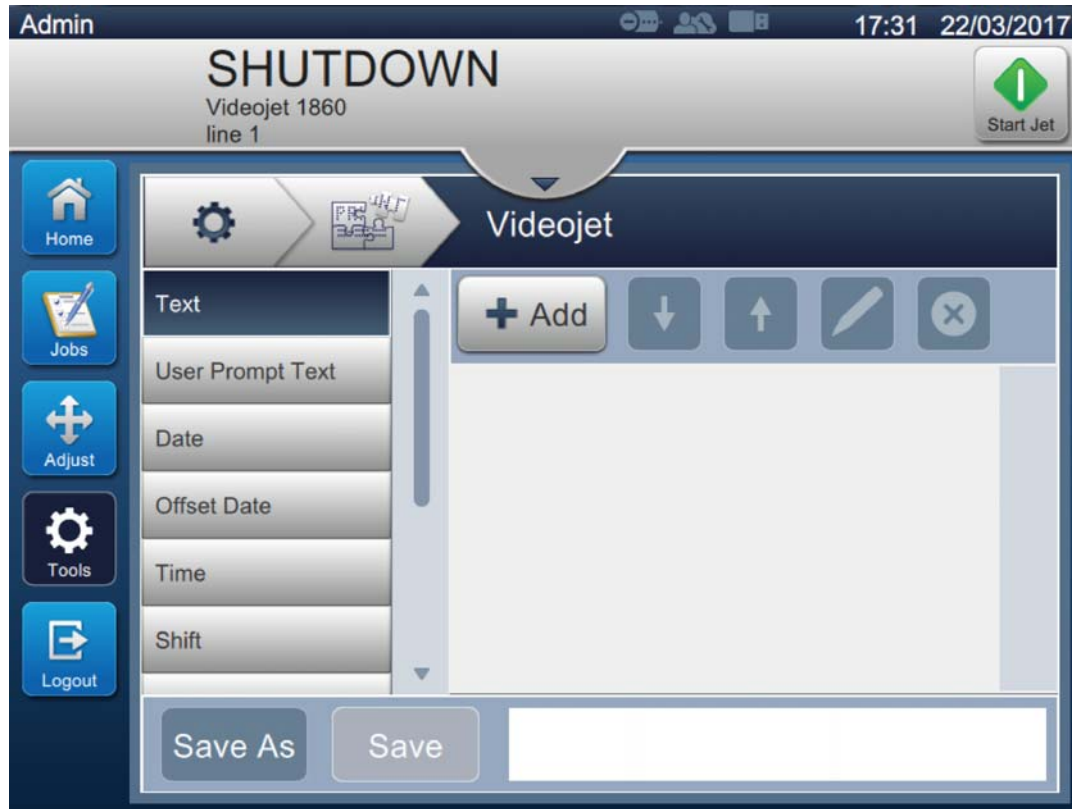

Figure 6-8: Custom Reference Editor
4. The Custom Reference Editor screen opens as shown in the Figure 6-8.